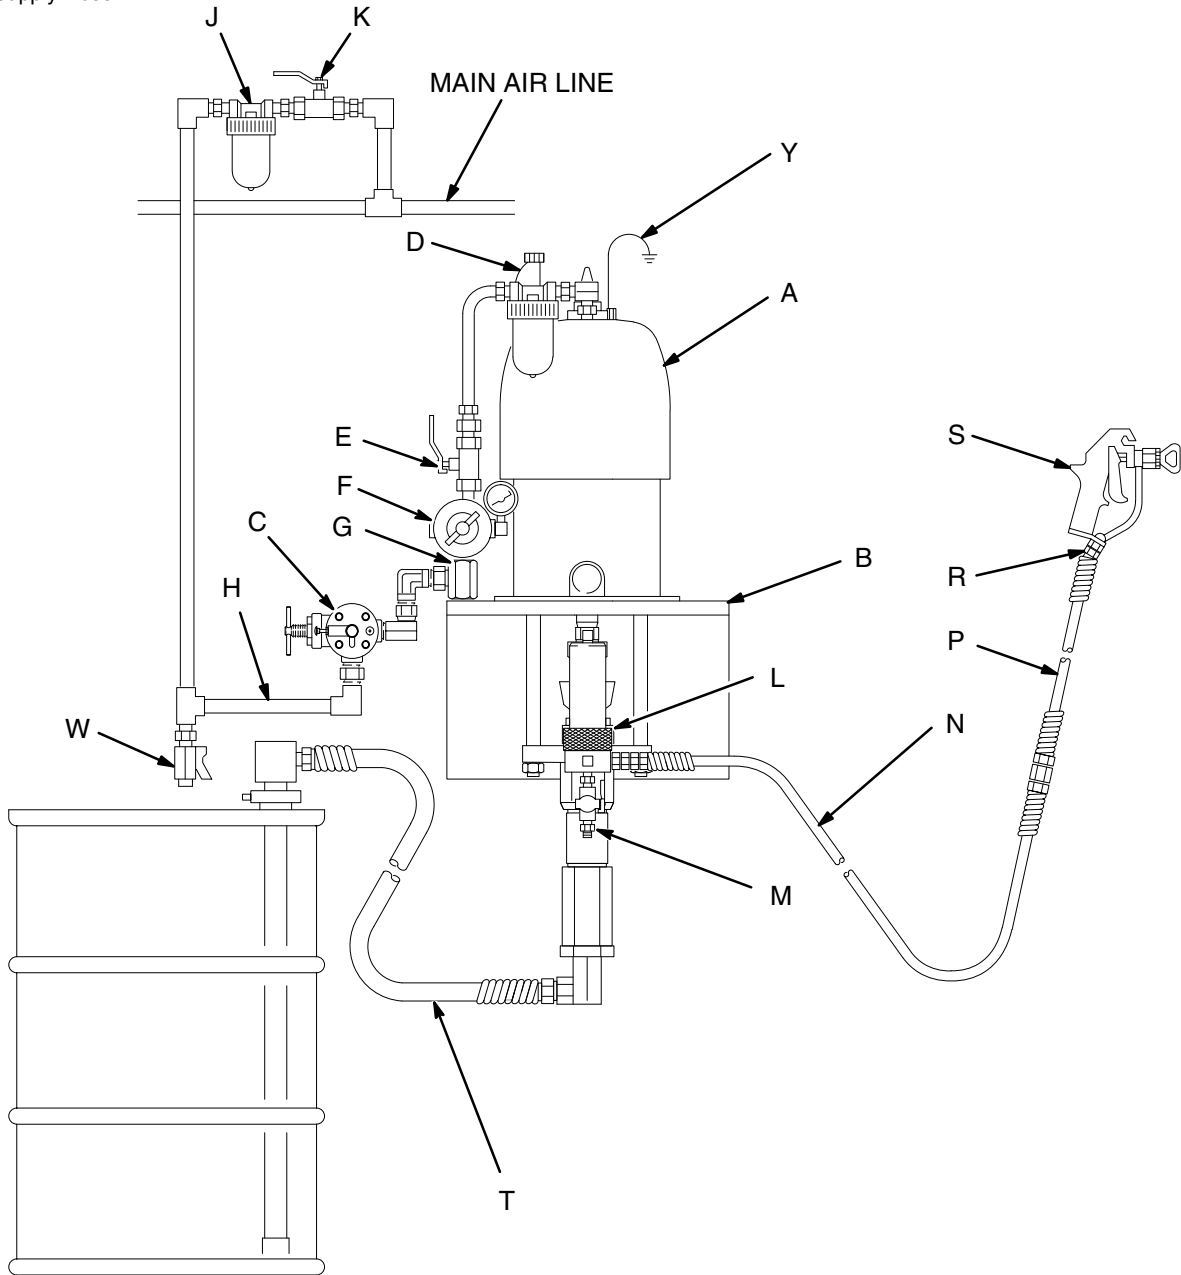

Fig. 2
Fig. 2 is only a guide for selecting and installing system components and accessories. Contact your Graco distributor for assistance in designing a system to suit your particular needs.
Mount the pump (A) to suit the type of installation planned. Fig. 2 illustrates a wall mount system. Pump dimensions and the mounting hole layout are shown on page 31.
Install the following accessories in the locations shown in Fig. 2, using adapters as necessary:
- **A fluid filter (L)** with a 60 mesh (250 micron) stainless steel element, to filter particles from the fluid as it leaves the pump.
- **A fluid drain valve (M)**, which is required in your system, helps relieve fluid pressure in the hose and gun (see the **WARNING** at left).
- **A gun (S)** dispenses the fluid. The gun shown in Fig. 2 is an airless spray gun for light to medium viscosity fluids.
- **A gun swivel (R)** allows freer gun movement.
- **A suction kit (T)** allows the pump to draw fluid from a supply container.
1. See Fig. 2. Connect the suction kit (T) to the pump's fluid inlet. Place the tube into the fluid supply.
2. Close the air regulator (F).
3. Open the pump's bleed-type master air valve (E).
4. Hold a metal part of the gun (S) firmly to the side of a grounded metal pail and hold the trigger open.
8. If the pump fails to prime properly, open the drain valve (M). Use the drain valve as a priming valve until the fluid flows from the valve. Close the valve.
**NOTE:** When changing fluid containers with the hose and gun already primed, open the drain valve (M) to help prime the pump and vent air before it enters the hose. Close the drain valve when all air is eliminated.